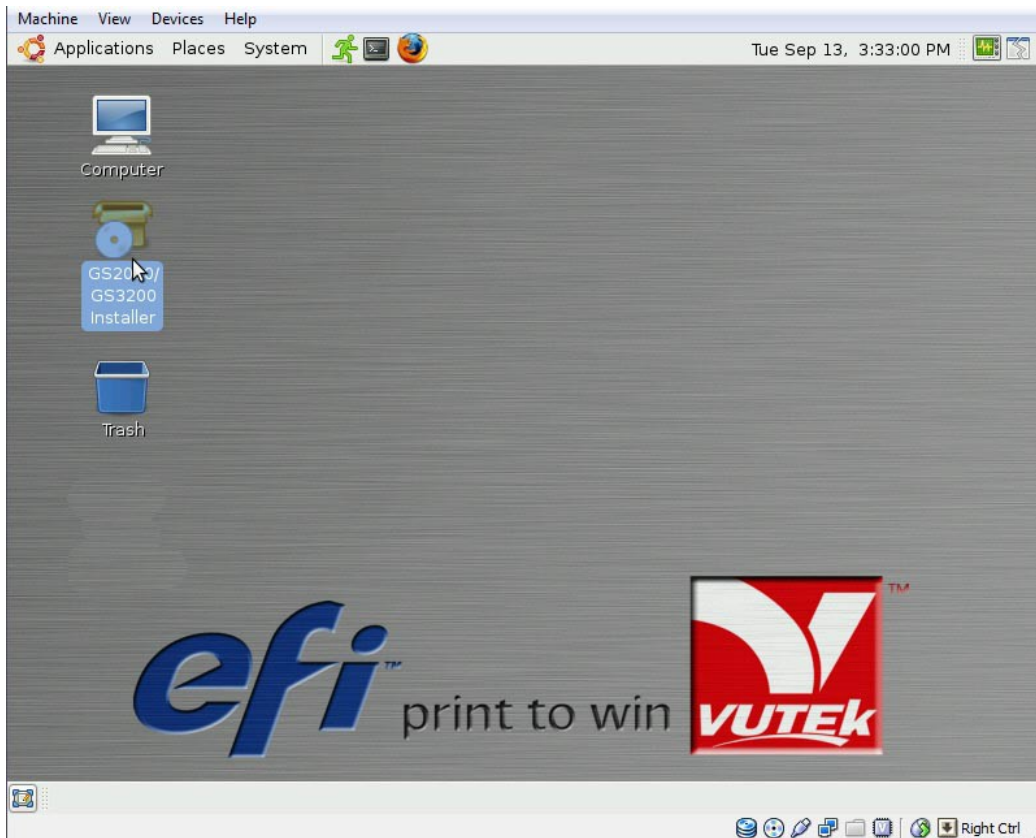

Figure 15: Desktop
1. After Stage 1 is complete, system will eject disc from drive and restart. System will then boot into Linux OS that was just installed. Once booting process is complete, you will see screen shown in **Figure 15**.